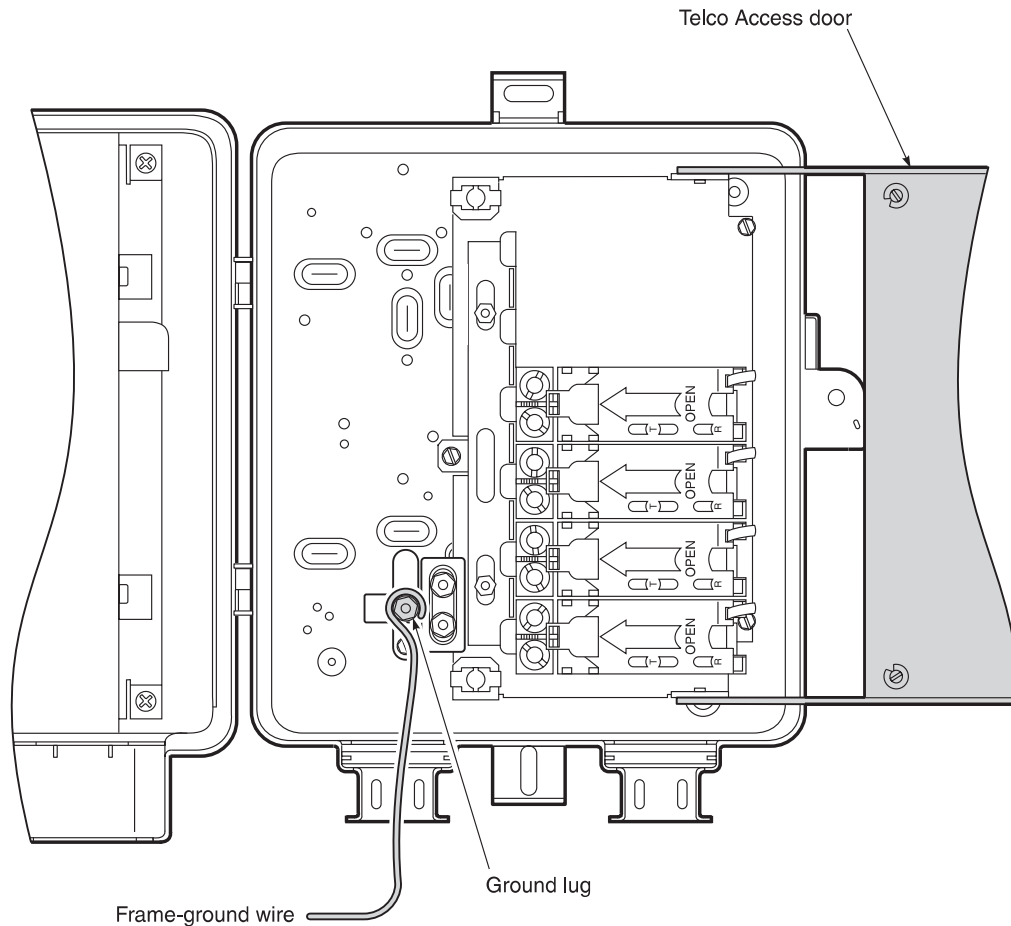

Figure 7. Attaching the Frame-Ground Wire
- 2 Use a pencil to punch a small hole in the bottom of the rubber grommet on the left-hand bottom side of the PRL-770 RT enclosure (Figure 7).